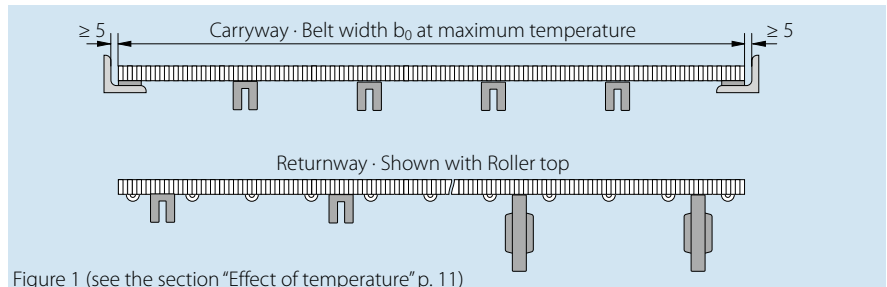

Figure 1 (see the section "Effect of temperature" p. 11)
- Straight parallel wearstrips (figs. 1 + 2) made of steel or plastics. This is an inexpensive solution for applications with minimal loads. The belt wear is limited to the areas where the wearstrips support the belt. We recommend a distance of approx. 120 – 150 mm between the wearstrips for the upper side and approx. 200 mm for the return side. Alternatively, snub rollers can be used. Support is always provided in areas which do not have profiles, rollers etc. fitted.